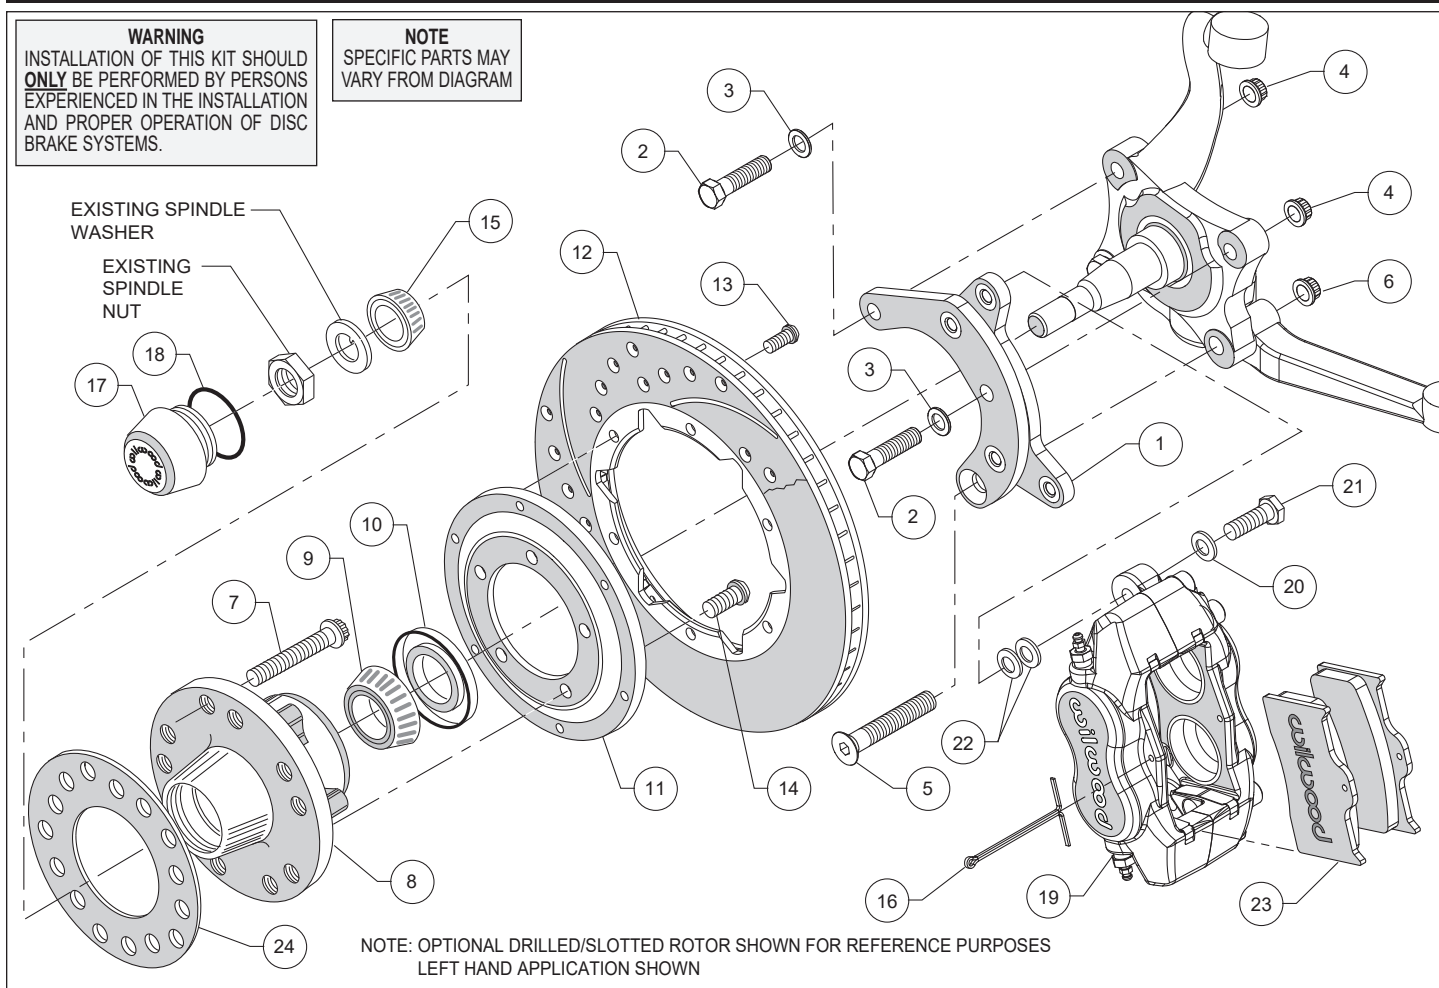
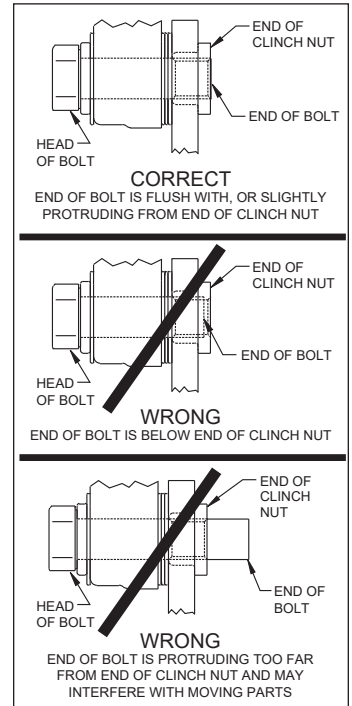

Figure 1. Typical Installation Configuration
Figure 4. Clinch Nut Engagement Diagram
Assembly Instructions (numbers in parenthesis refer to the parts list, on the preceding page and Figure 1): **CAUTION:** All mounting bolts must fully engage clinch nuts. Be sure to check that all bolts are either flush or protruding through flanged side of clinch nut after shimming, Figure 4.
- Align bracket with the corresponding holes on the face of the spindle, attach using bolts (2/5), washer (3), and secure using nuts (4/6) as shown in Figure 1 and Photo 1. Temporarily tighten the mounting bolts. Ensure that the flanged heads of the clinch nuts in the bracket are facing outboard, Photo 1. **NOTE:** The bracket must fit squarely against the mounting points on the spindle. Inspect for interference from casting irregularities, machining ridges, burrs, etc. Torque lock nut (4) to 47 ft-lbs and lock nut (6) to 65 ft-lbs.
- Install the grease seal (10) by pressing into the backside of the hub (8), flush with the end of the hub, Photo 3.
- Orient the rotor (12) and the rotor adapter (11) as shown in Figure 1 and Photo 4. Attach the rotor to the adapter using bolts (13). Using an alternating sequence, apply red *Loctite*® 271 to the threads, and torque to 25 ft-lb.
- Mount the adapter/rotor assembly (11/12) to the hub (8) using bolts (14), as shown in Figure 1 and Photo 5. Using an alternating sequence, apply red *Loctite*® 271 to the threads, and torque to 45 ft-lb.
- Pack the small outer bearing cone (15) with high temperature disc brake bearing grease and install into hub (8). Slide the hub/rotor assembly onto the spindle. Secure using OEM spindle washer and OEM spindle nut, Photo 6. Adjust bearings per OEM specifications. Install saved OEM nut lock (if any) and a new cotter pin (not supplied).
- Screw dust cap (17) into hub (8), Photo 7. Friction created by the o-ring (18) on the dust cap keeps it from unscrewing. **NOTE:** The O.D. of the existing OEM spindle washer may be larger than the I.D. of the dust cap not allowing it to seat against the hub face. Therefore, use the spindle washer (16) supplied with the kit instead of the OEM washer.
- NOTE:** Please reference the caution statement at the beginning of the assembly instructions. Mount the caliper (19) onto the caliper mounting bracket (1) using bolts (21) and washers (20), as shown in Figure 1. Initially place two .035" thick shims (22) on each bolt between the caliper and the bracket, Photo 8. Temporarily tighten the mounting bolts and view the rotor (12) through the top opening of the caliper. The rotor should be centered in the caliper, Photo 9. If not, adjust by adding or subtracting shims between the bracket and the caliper. Always use the same amount of shims on each of the two mounting bolts. **NOTE:** The end of each bolt must be flush with or slightly protruding from the head of the clinch nut, as shown in Figure 4. If necessary place spare shims between washer (20) and caliper mounting ear to achieve the proper clinch nut engagement. Once the caliper alignment and clinch nut engagement are correct, remove the bolts one at a time, apply red *Loctite*® 271 to bolt threads, and torque to 40 ft-lb.
- Install the disc brake pads (23) into the caliper, with the friction material facing the rotor (12), and secure in place using cotter pin (16), Photo 10.